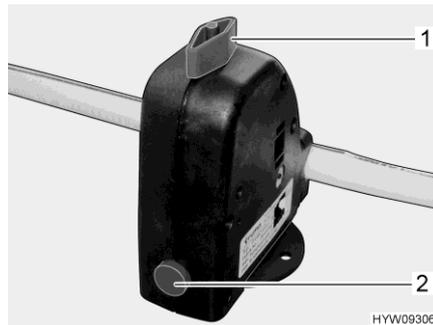

Fig. 199 Safety/drainage valve (Truma)
- Close the safety/drainage valve (Truma). Turn the knob (Fig. 199,1) perpendicular to the safety/drainage valve and push the push button (Fig. 199,2) in.